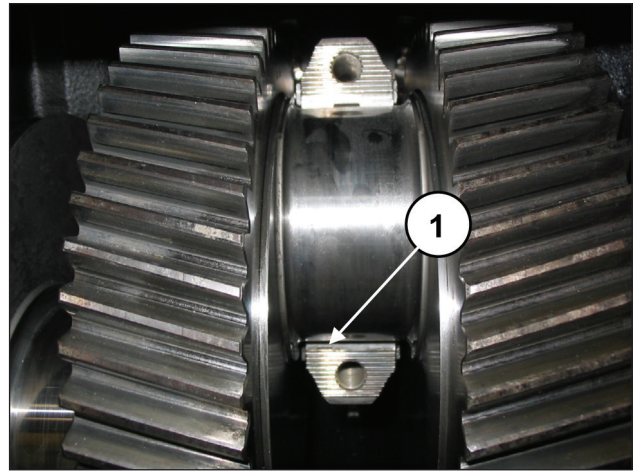

Fig. 82
For proper assembly of the half-bearings, ensure that the reference tab on the half-bearings are positioned in their housing on the half support (pos. ①, Fig. 82).